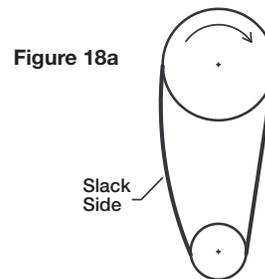

Figure 18a
- 8a. **Sizes 099-161:** Belts should be tensioned just enough to prevent slippage at full load. Belts should have a slight bow on the slack side while running at full load; see Figure 18a.